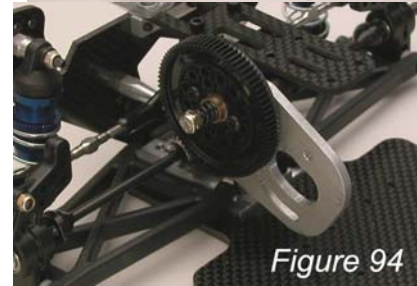

Figure 94
Step #6: Fasten the Transmission back to the car with the 2 4-40X1/2" SH Screws from underneath the Chassis and thru the Gearbox Spacer Plate as you did in Step #2. Re-attach the Transmission Brace with the "square" facing toward the back. The lexan Tail Tank Mount will now be attached where the holes line up over the Top Plate Block on the Shock Tower. Use (2) 3/8" BH Screws with Washers to tighten the Tail Tank Mount to the Top Plate Block. Your car should now look like the car shown in **Figure 94**.